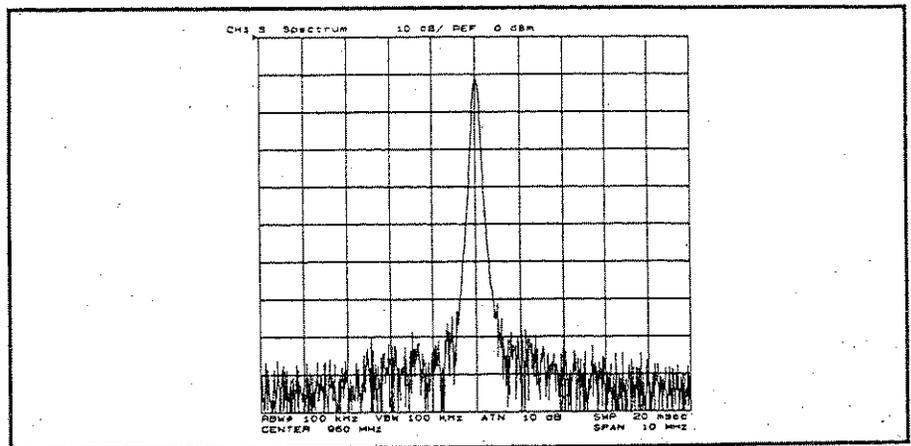

Figure 3-21. Burst Signal Measurement Using Gated Sweep
3. Press **GATE LENGTH 30 [M/μ]**. The analyzer displays only the RF signal spectrum as shown in Figure 3-21.